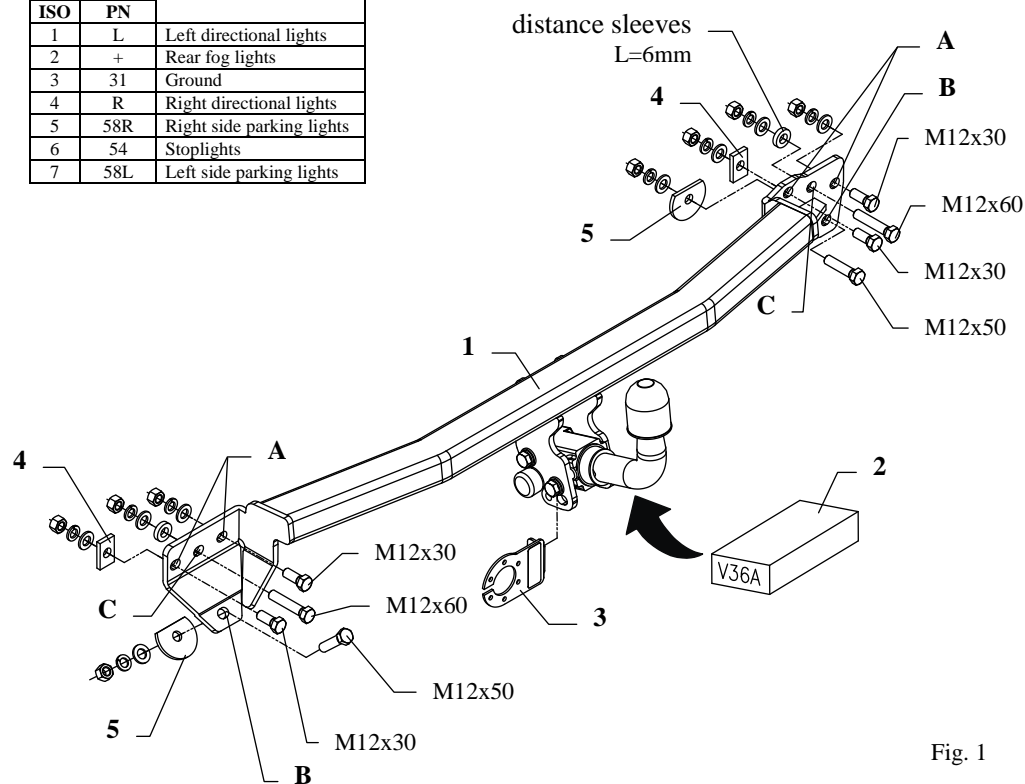
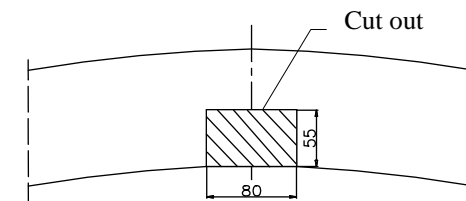

Fig. 1
Fig. 3
2. Unscrew the metal part of the bumper and then remove four bolts from points (pos. A, see the fig. 1) (use the angular polishing to remove). In the axis of symmetry cut out the fragment 80x55mm, as shown on the fig. 3.
3. Apply the main bar of the towbar (pos. 1) to the back piece and fix through holes (pos. B) using bolts M12x50mm (pos. 8) together with truncate washer (pos. 5).
4. Place four bolts M12x30mm (pos. 9) in holes (pos. A) – do not fix!
5. Through holes (pos. C) drill holes $\varnothing 13\text{mm}$ and then fix with bolts M12x60mm (pos. 7). Use distance sleeves (pos. 6), as shown on the fig. 1.
6. Remove bolts M12x30mm (pos. 9) from holes (pos. A) and then apply the metal bumper and fix with washer (pos. 4) using bolts M12x30mm (pos. 10).
8. Fix body of the automat and place tow-ball according to supplied instruction. Note! Remember to place socket plate (pos. 3) as shown on the drawing 1.